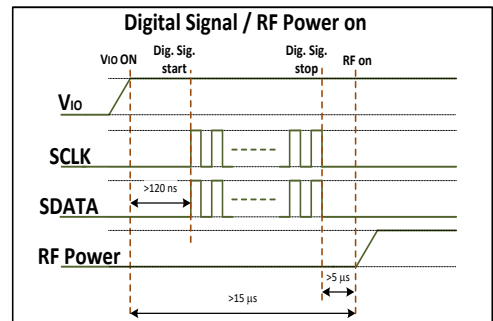

Figure 2 Digital Signal/RF Power-On Detail
- VIO must be applied for a minimum of 120 ns before sending SDATA/SCLK to ensure correct data transmission. (see figure 2)
- VIO must be applied for a minimum of 15 μ s before applying RF power. (see figure 2)
- Wait a minimum of 5 μ s after RFFE bus is idle to apply an RF signal. (see figure 2)